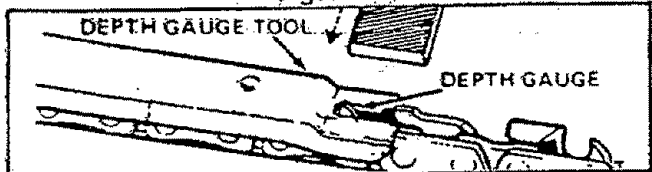

Figure 32
- Place depth gauge tool over each cutter depth gauge. Figure 32.
- Maintain rounded front corner of depth gauge with a flat file. Figure 32 & 33.